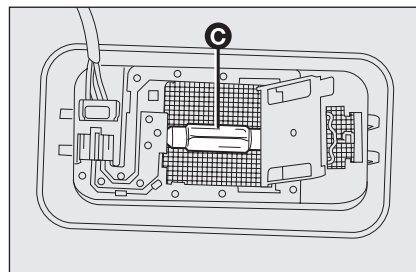

fig. 42
- ☐ replace bulb **C-fig. 42** releasing it from the side contacts. Then, insert the new bulb making sure it is correctly clamped between the contacts;